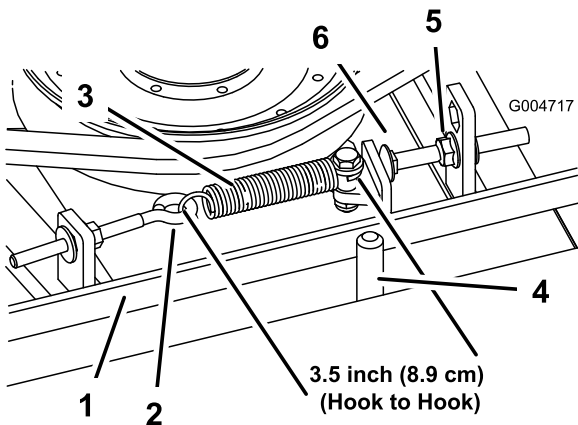

Figure 97
When properly tensioned, the extension spring (hook to hook) measurement should be approximately 8.9 cm $\pm$.63 cm (3.50 $\pm$.25 inch) (inside). Once the correct spring tension is attained, adjust the stop bolt (carriage bolt) until there is approximately .32 cm $\pm$.152/.000 cm (.125 $\pm$.060/-.000 inch) clearance between the head of the bolt and the idler arm (Figure 97).
Note: Make sure the belt is positioned on the spring side of the belt guide (Figure 97).
2. Loosen the eye bolt allowing the removal of the extension spring (Figure 97).
3. Loosen the flange nut securing the stop bolt to the mounting tab. Back off the nut enough to allow the idler arm to pass by the stop bolt (Figure 97). Move the idler pulley away from the belt to release belt tension.
8. Reconnect the extension spring (Figure 97) to the eye bolt and tension the belt as follows: